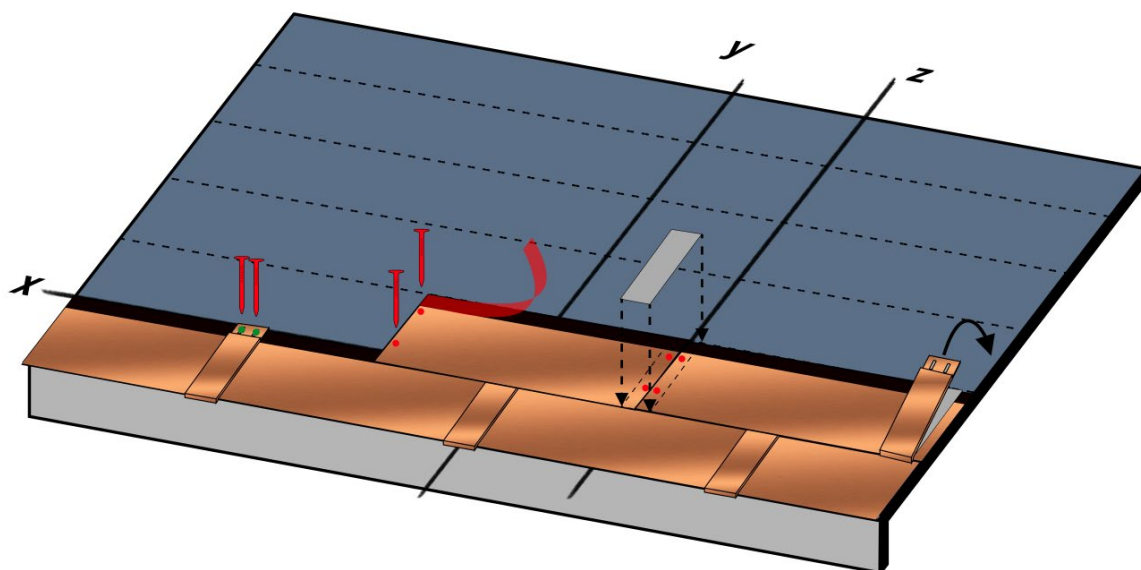
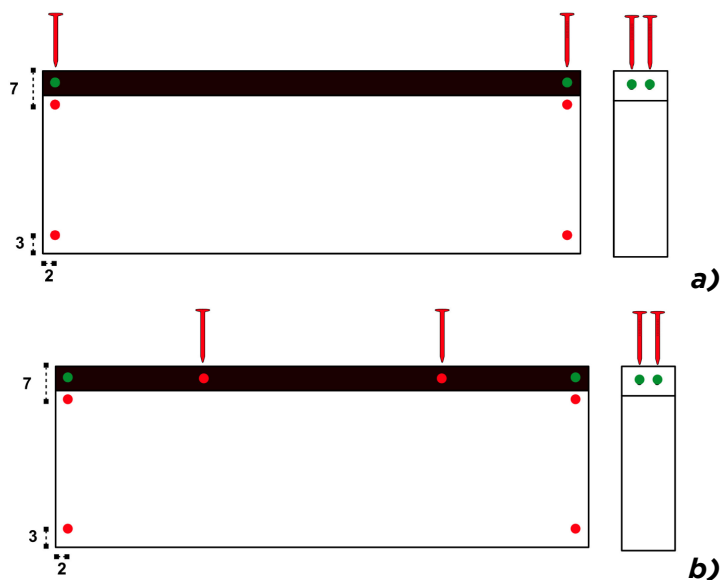

Fig. 10 - Installation of the second row of shingles
Fig. 11 - Shingle nailing **a)** slopes <60°; **b)** slopes >60°
- Proceed with the installation of the second row of shingles: align the side edge of the first shingle with the vertical line z and the upper edge with the horizontal line 29 cm away from x – Fig. 10. Nail the shingle to the substrate using 4 stainless steel nails per shingle, as shown with the red nails in Fig. 11 a). In the case of slopes between 60° and 85°, place 2 additional stainless steel nails, for a total of 6 nails per shingle, as shown with the red nails in Fig. 11 b). The green nails indicated in Fig. 11 are those used to fix the Compact Clips. Proceed with the installation of all the shingles in the row in the same manner. Remove the protective film from the self-adhesive strip on the shingles, apply the Compact Strip, and install the Compact Clip – Fig. 10.